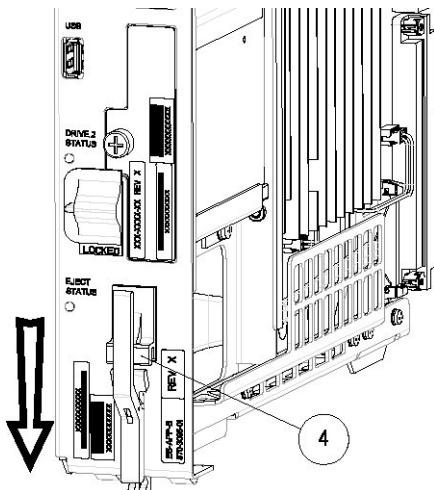

Figure 13: E5-APP-B Card Inject Hardware Switch, LOCKED
6. Slide the E5-APP-B H/S switch (4) down to the LOCKED position (see *Figure 13: E5-APP-B Card Inject Hardware Switch, LOCKED*).